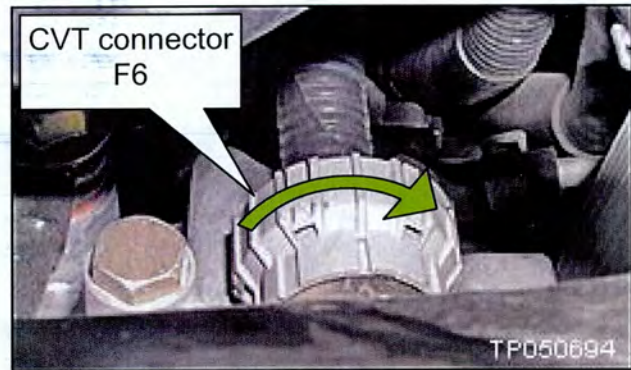

Figure 1
8. Disconnect CVT harness connector F6 by turning it in the direction shown in Figure 1.
A. On your C-III screen, look at the **Part Number** column (see Figure 1 example).